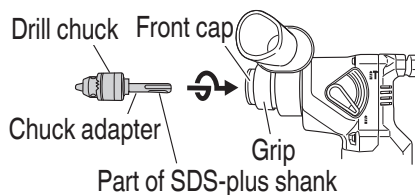

Fig. 22
- Installing drill chuck and chuck adapter. (Fig. 22)
- (1) Attach the drill chuck to the chuck adaptor.
- (2) The part of the SDS-plus shank is the same as the drill bit. Therefore, refer to the item of "Installing the drill bit" (on page 45) for attaching it.